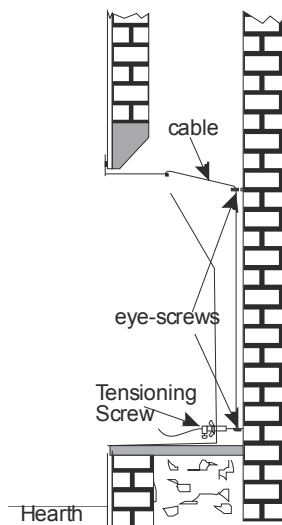

Figure 58
1. With the firebox placed close to the fireplace opening feed the two cables through the matching eye screws (left cable through left hand set eyelets and the same for right hand cable) and then back into the holes at the bottom rear of the firebox (see **Figure 58**).